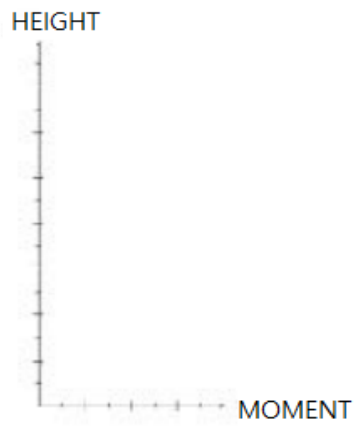

Figure 2 Template for part 6
6. Create graphs showing experimental **and** theoretical moments (**only for your lab group data**), for **both** the Eiffel Tower and Washington Monument models. Use the x-axis for moments, and the y-axis for height (i.e., measured from the bottom). Use Figure 2 as a reference. For each structure, connect the data points with the appropriate curve, resulting in 2 curves per model. Label axes and use labels or colors to distinguish curves. It is recommended you use Excel, Python, or MATLAB for this part. [15]